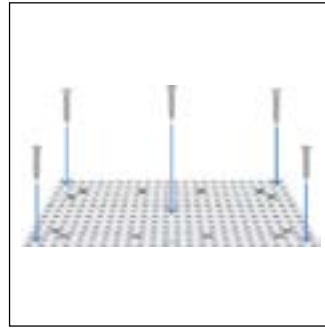

Figure 17
- Last, insert fasteners directly through the marked mounting holes at several points across the light sheet (figure 17).